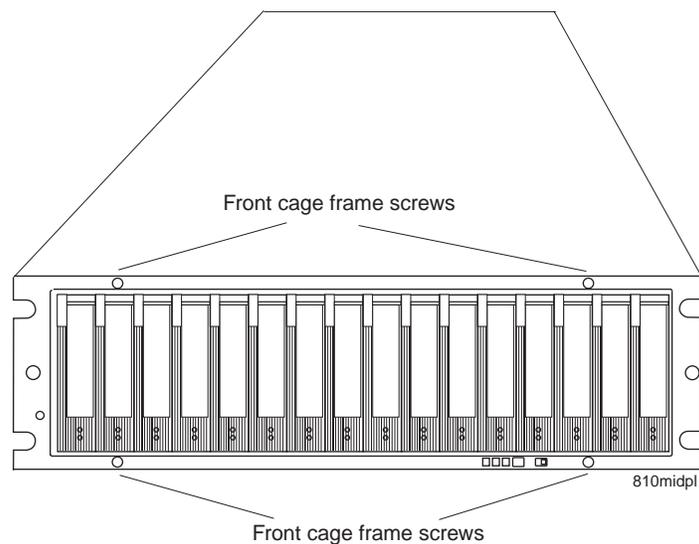

Figure 50. Replacing a midplane
10. Use a #1 Phillips screwdriver to loosen the four front cage frame screws on the midplane, as shown in Figure 50.